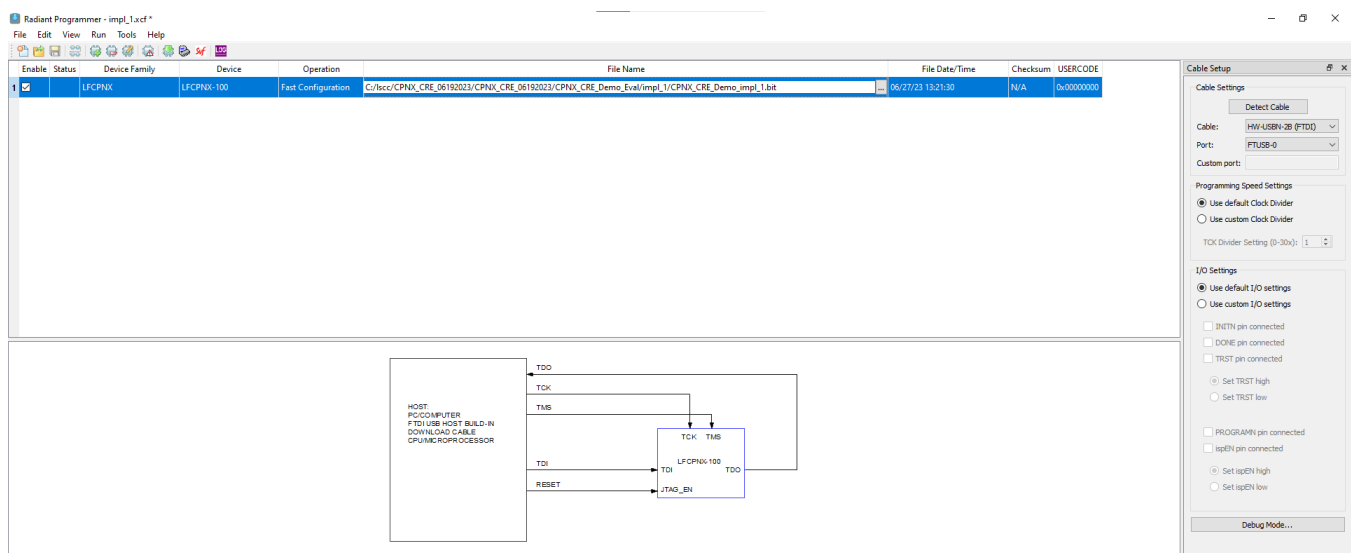

Figure 4.10. Radiant Programmer Configuration
2. In the **Radiant Programmer** window, ensure the **Device Family**, **Device** and **Operation** matches the configuration shown in Figure 4.10. Select the .bit file generated from the Generating a Lattice Radiant Project section.